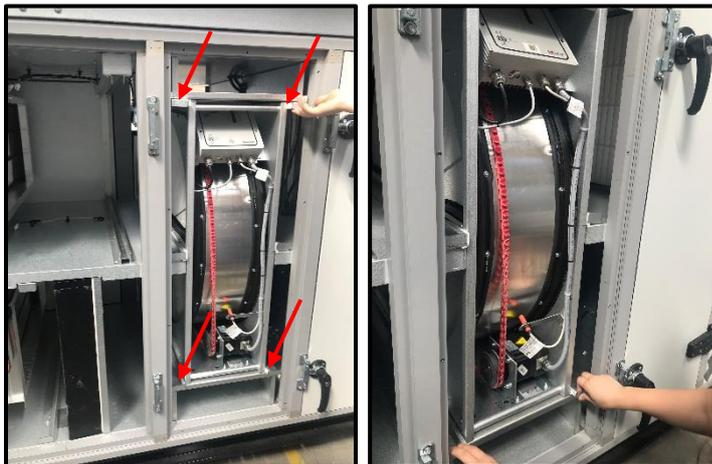

Fig. 30
4. Pull lock-bars for unlock heat exchanger (Fig. 30)